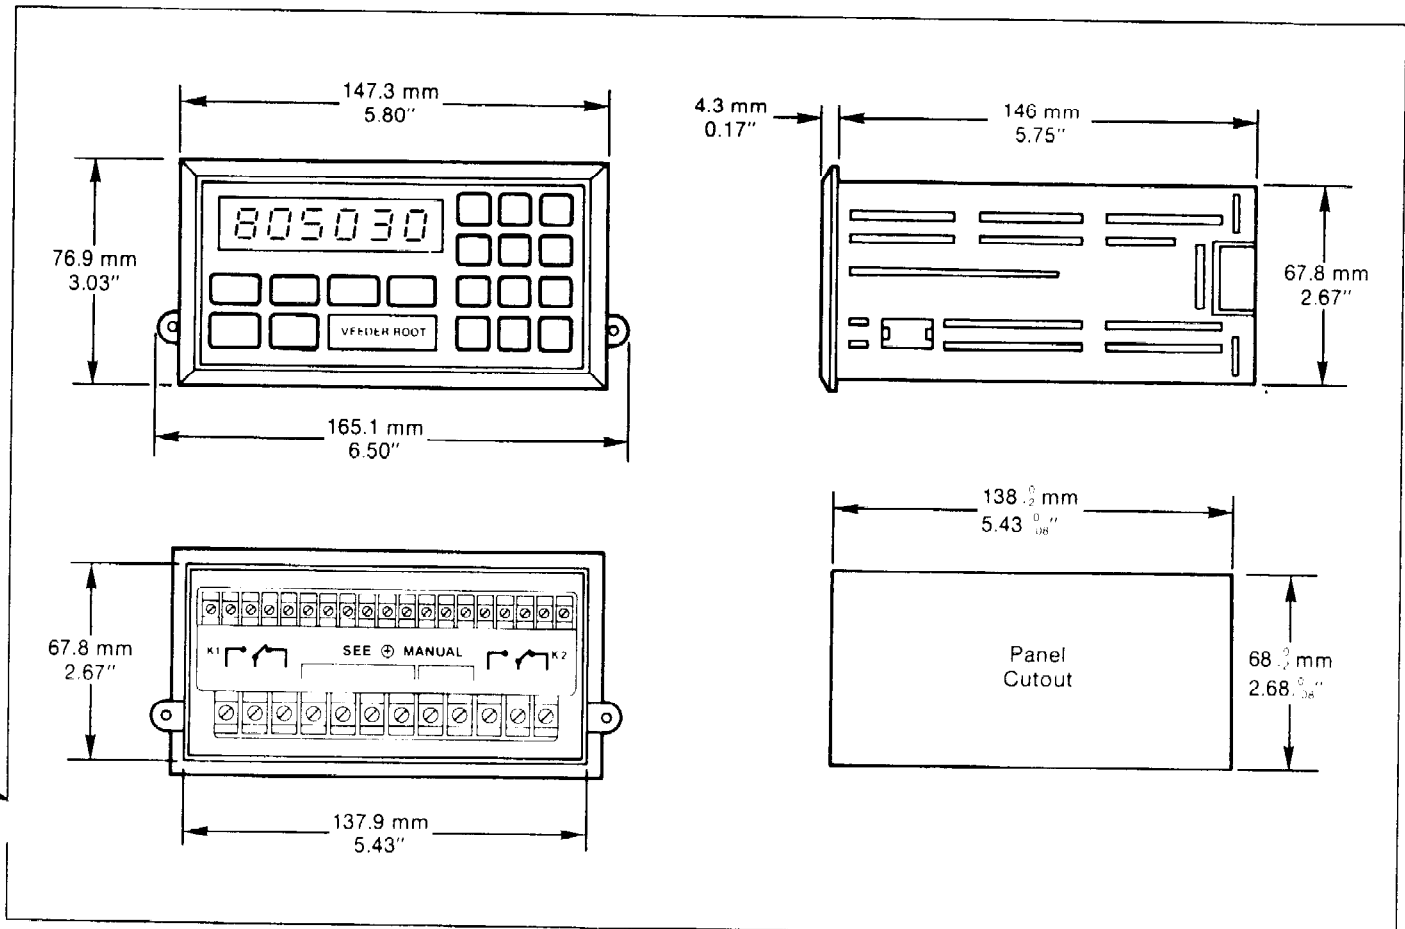

Figure 2-1. Dimensions.
1. The Series 7910 counter is designed to be panel mounted. For panel mounting and clearance data, see Figures 2-1 and 4-1. Access to the rear of the counter housing is required to allow performance of mounting procedure and wiring. Access to the front panel is required for operation of the panel mounted controls.
1. Cut mounting hole in panel (refer to Figure 2-1 in Section 2).